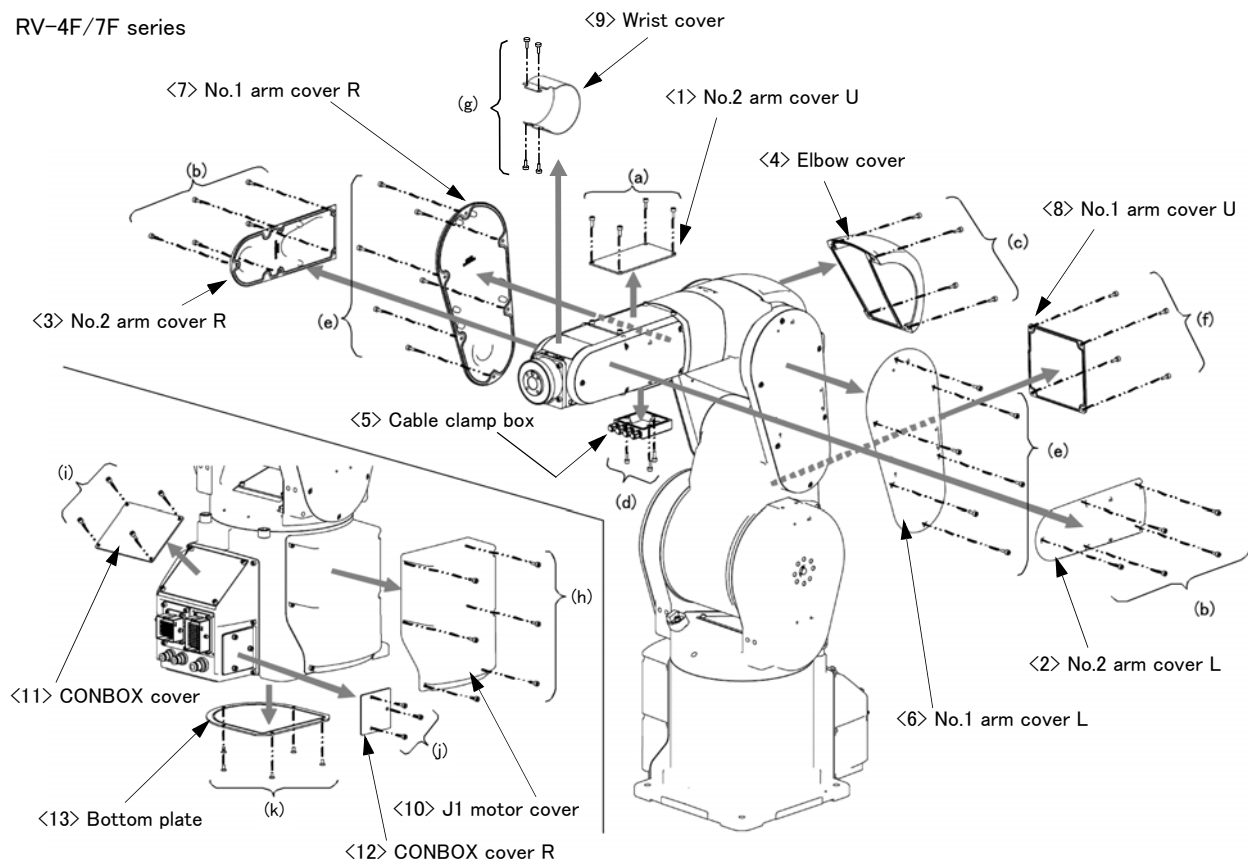
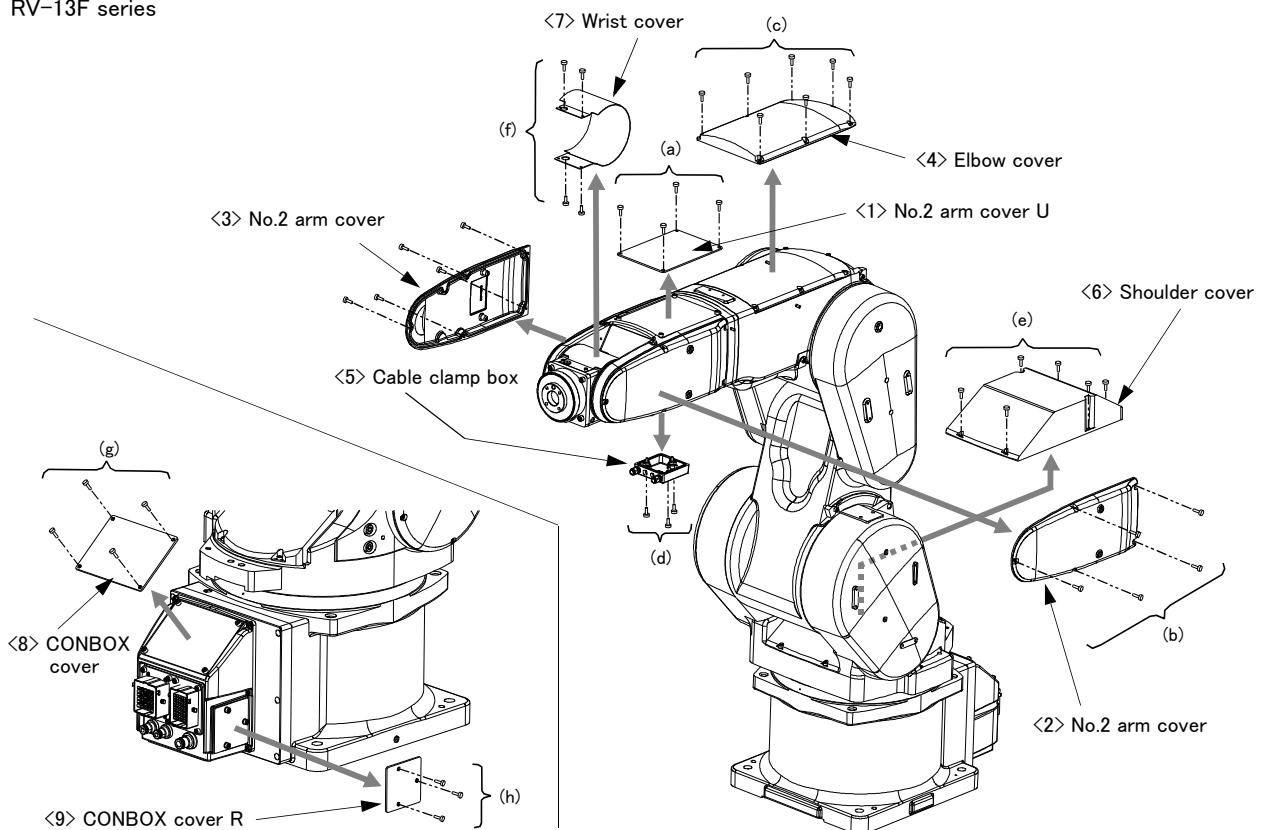

Fig.5-4 : Installing/removing the cover (RV-4F/7F series)
Fig.5-5 : Installing/removing the cover (RV-13F series)
- (1) Refer to Fig. 5-4 (RV-4F/7F series) or Fig. 5-5 (RV-13F series), and remove the cover.
- (2) The names of the covers are given in Fig. 5-4 (RV-4F/7F series) or Fig. 5-5 (RV-13F series), and a list of the cover fixing screws is given in Table 5-3.
- (3) There are some covers that may be difficult to remove due to the robot posture. In this case, change the robot posture with jog operation, and then remove the cover.
- (4) When removing the wrist cover, move the J5 axis to the position of +90 degrees by jog operation.
- (5) When attaching the cover after maintenance and inspection, use the detaching procedure in reverse.
The part Nos. and symbols in Table 5-3 correspond to Fig. 5-4 (RV-4F/7F series) or Fig. 5-5 (RV-13F series).